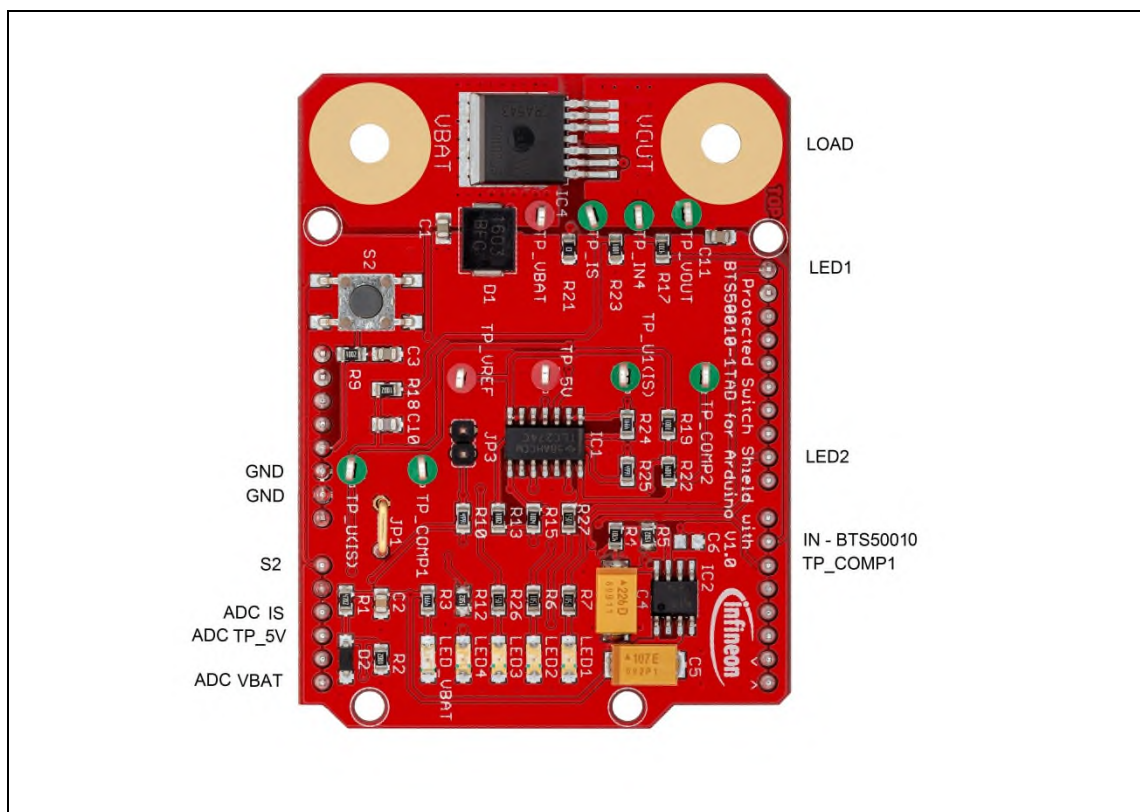

Figure 6 High Side Switch Shield connectors
As mentioned before the High Side Switch Shield can be operated in two ways, in the stand alone mode (Shield only) or together with an Arduino controller board like the XMC1100 Boot Kit. All necessary control and sense signals can be applied directly at the Arduino™ connectors. The pin IN from BTS50010-1TAD uses a comparator with hysteresis. The switching ON / OFF takes place in a defined region, set by the threshold $V_{IN(L) Max}$ (0.8V) and $V_{IN(H) Min}$ (2.2V), therefore the pin IN can be driven by any other microcontroller or with logic level signals. Since the maximum input voltage at the pin IN can be V_{BAT} , a very flexible usage of the Shield is possible. Besides the supply voltage V_{BAT} has to be provided to the V_{BAT} connector. Figure 6 shows the pinout/connectors of the High Side Switch Shield.